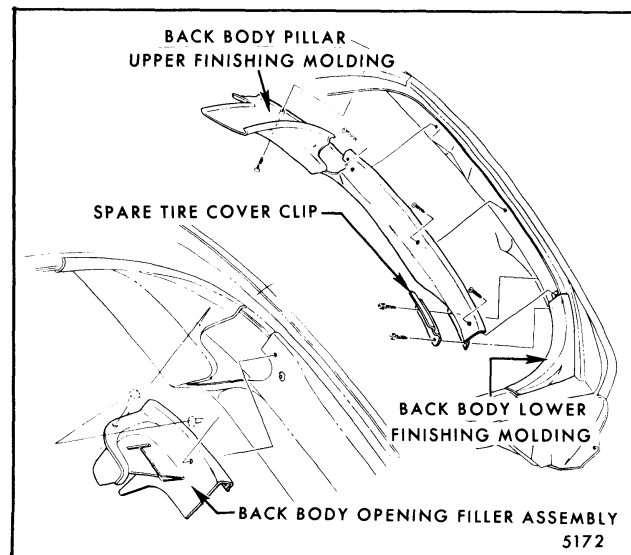

Fig. 7-69-Back Body Pillar Upper Finishing Molding - Right Side Shown
1. Remove back body opening filler assembly attaching screws and disengage filler assembly from back body pillar upper finishing molding (Fig. 7-69).
2. Remove screws securing back body pillar upper finishing molding and disengage pillar molding from back body pillar (Figs. 7-69 and 7-70).